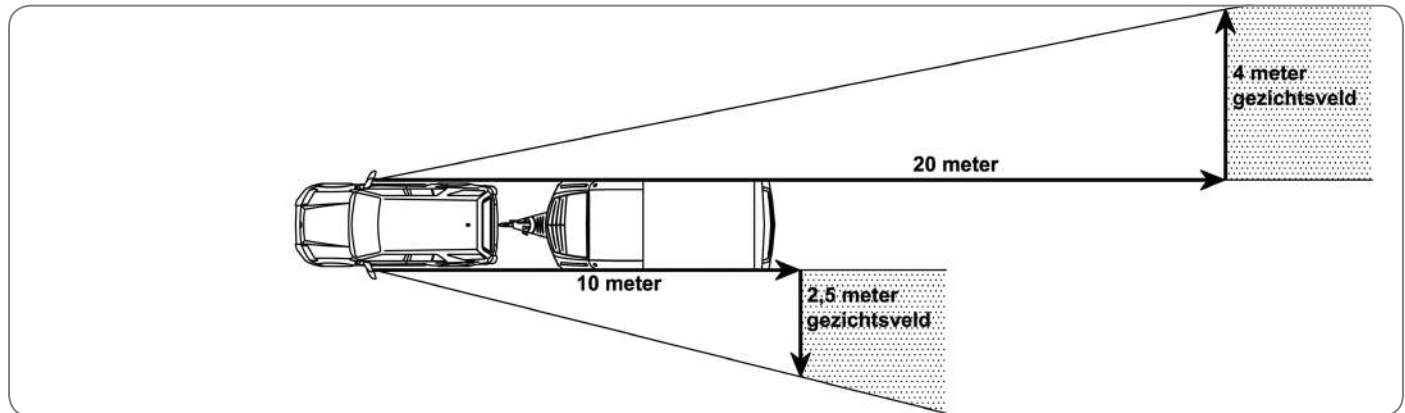

Figure 1.10
The driver of the car towing the Shelter must have a clear view of both sides of the Shelter (figure 1.10). It will usually be necessary to fit extra wing mirrors to the car for this purpose. (This also depends on the width of the car, but we recommend using wing mirrors in all cases for extra safety.)
4. Adjust the car windows when the combination is in a straight line (figure 1.10).